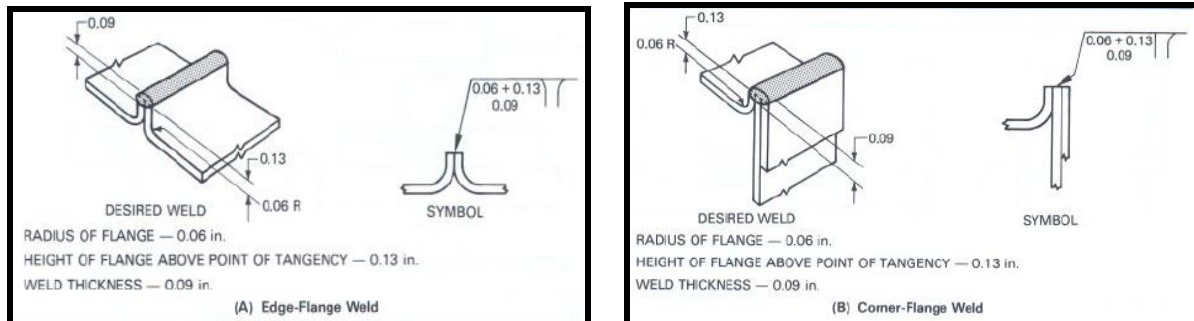

Figure-17: Flange welds.
3.6 Flange welds – A flange weld is made on the edges of two or more members that are usually light gauge sheet metal. For this type of joint, at least one member is required to be flanged by bending it approximately 90 degrees. Example of flange weld is shown in figure-17. In the figure, (A) shows the symbol & weld dimension of edge flange weld and (B) shows the details of corner flange weld.